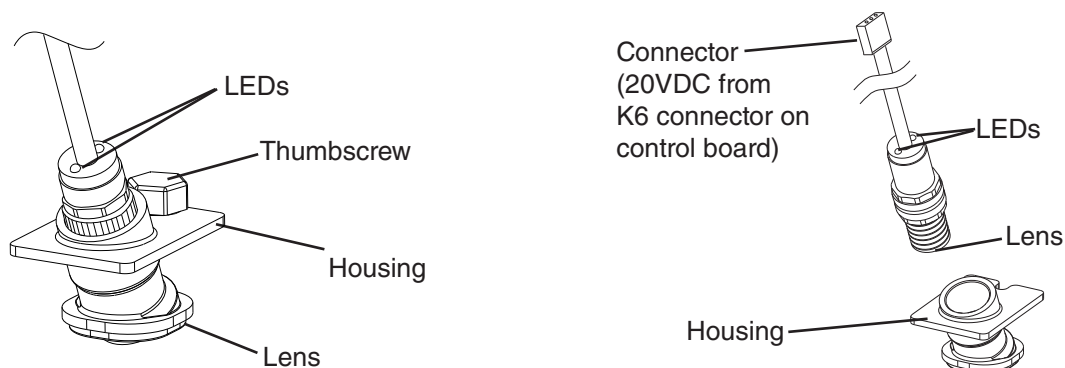

Fig. 4
- 4) Confirm that BC1 is connected to CB K6 connector. Wipe down BC1 lens with a warm, clean, damp cloth. If the bottom of the icemaker is not accessible in your application, remove the thumbscrew securing the BC1 housing, then remove the housing from the base. See Fig. 4.
- 6) Turn on the power supply to start the automatic icemaking process. Check that BC1 green LED is on. The BC1 green LED confirms 20VDC power from CB to BC1 and remains on constantly. **Diagnosis:** If the BC1 green LED is not on, confirm 20VDC at CB K6 #1 (DBU) to CB K6 #3 (BR). If 20VDC is present and the BC1 green LED is off, replace BC1. If not, see step "3) BC1 (infrared sensor) Power Supply," under "II.C. Control Board Check.
- 8) CB "GM" and "COMP" LEDs are on. Use an object to cover BC1 lens at the bottom of the icemaker. If the bottom of the icemaker is not accessible in your application, remove the thumbscrew securing BC1 housing, remove the housing from the base, then cover BC1 lens. See Fig. 4. The yellow LED on BC1 turns on (flashing or steady). The yellow LED flashes when ice is at the outer limit of its range and turns steady as ice nears. After the yellow LED turns on (flashing or steady), BC1 shutdown delay timer starts. See "III.B.2. BC1 (Infrared Sensor) Shutdown Delay (S1 dip switch 1, 2, 3)." Comp (LLV/SLV on MLH model) should de-energize immediately after the shutdown delay timer terminates. 5 min. later, GM and FM/FMR should de-energize.
- 10) Move the power switch to the "OFF" position. Turn off the power supply, then proceed to "II.D.2. Bin Control (2) (mechanical stand-alone or backup) Check."